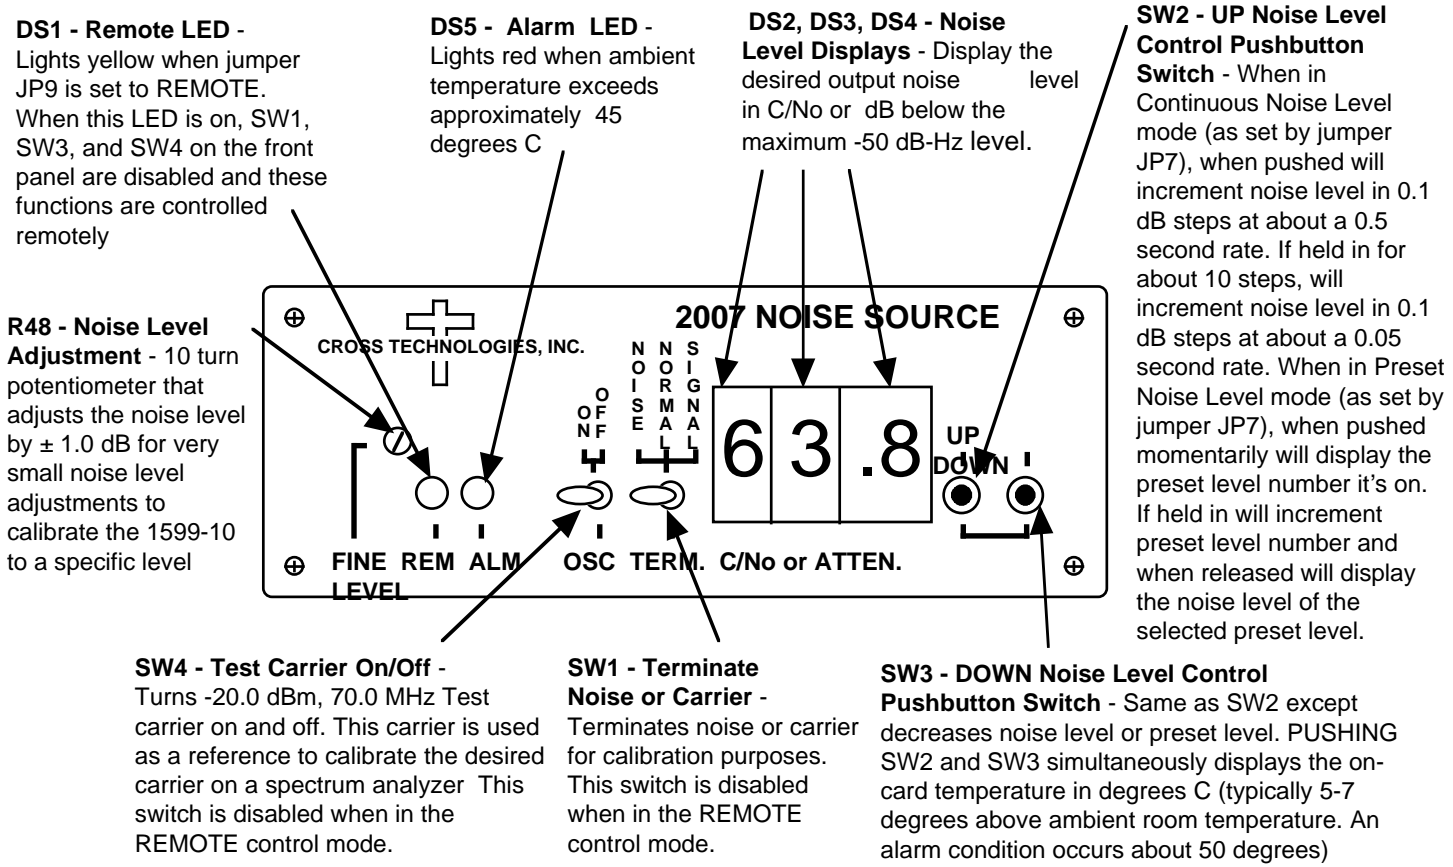
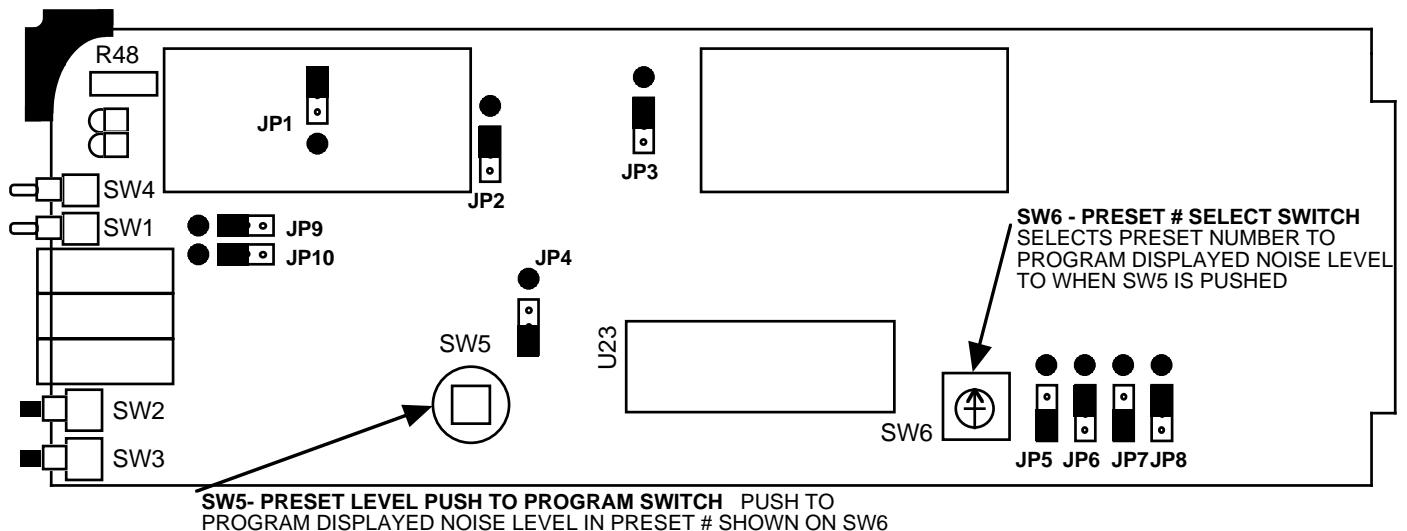

FIGURE 2.2 2007 Front Panel Controls and Indicators
FIGURE 2.4 2007 On-Card Jumpers and Controls
2.2 Controls and Indicators - Figure 2.2 shows front panel controls and indicators.
2.4 Accessing and Changing On-Card Jumpers and Controls - Figure 2.4 shows jumpers (with factory settings) and other on-card controls. To remove the printed circuit board (PCB) from the extrusion for access to the jumpers and controls:
- 3.) With the **power supply disconnected**, move jumpers to the desired positions (Fig 2.4).
- 7.) Install four (4) **rear panel screws**.
- 1.) If required, check that on-card jumpers are set to the desired positions (Figure 2.4)
- 4.) Set the desired noise level by pushing SW2 or SW3. If numbers 0 to 9 appear when pushing SW2 or SW3, the 2007 is set for the preset level mode (with on-card jumper JP7, Figure 2.4).
- 5.) Be sure DS1 and DS5 are off (Figure 2.2).
- 8.) If needed, R48 can be adjusted (Figure 2.2) to SLIGHTLY adjust the noise level.
2.5.3 Noise Level Setting, Preset Level Mode - Preset level selection is accomplished when the on board, but not front panel accessible, three-pin jumper (JP7) (Figure 2.4) is set to the “preset level” (DOT) position. Ten preset preset levels (0-9) can be selected as follows:
1. Remove the 2007 PCB (see section 2.4) to access the preset level selecting decimal switch (SW6) and the push to program switch (SW5) (Figure 2.4). With the display mode jumper (JP7) set in the noise level mode, the noise level set switches (SW2, SW3) are pushed to the noise level desired (Figure 2.2).
2. The decimal switch (SW6) is set to the preset level number desired to be programmed (Figure 2.4).
3. The programming button (SW5) is pushed to program the currently displayed noise level into that preset level number (Figure 2.4).
(Figure 2.4) and observe yellow LED DS1 (Figure 2.2) is on. Serial ASYNC (8N1) data is received via RS232C receiver U21 and sent via RS232C transmitter U38 at a 2.4 kB/s data rate. When in the remote mode, either continuous or preset noise levels can be adjusted, but programming of the preset levels can only be done locally. The 2007 noise power settings can be automatically calibrated with an HP3708A Noise Test Set. Contact Cross Technologies, Inc. (770-886-8005) for details.
3.2.3 Noise Level Setting, Preset Level Mode - Preset level selection is accomplished when the on board, but not front panel accessible, three-pin jumper (JP7) (Figure 2.4) is set to the “preset level” (DOT) position. Ten preset levels (0-9) can be selected as follows:
1. The 2007 is placed on an extender card to access the preset level selecting decimal switch (SW6) and the push to program switch (SW5) (Figure 2.4). With the display mode jumper (JP7) set in the noise level mode, the noise level set switches (SW2, SW3) are pushed to the noise level desired (Figure 2.2).